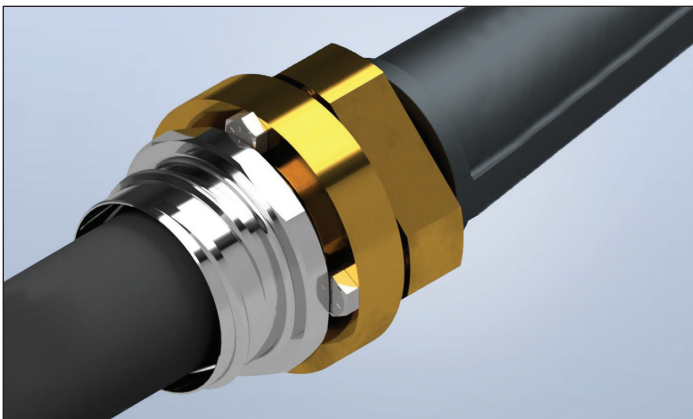

Figure: 1-12
7. Slide up and tighten the Floppy Conduit Adapter into the Back Flange (Figure 1-12). **DO NOT** overtighten the Floppy Conduit Adapter!